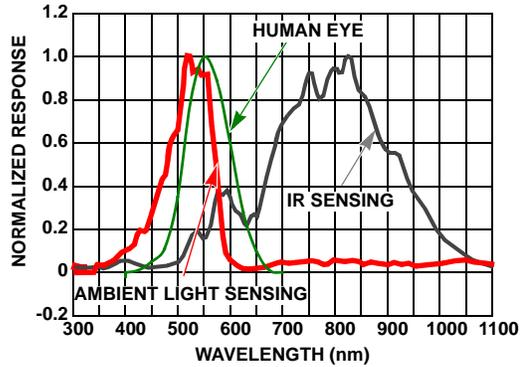

FIGURE 4. NORMALIZED SPECTRAL RESPONSE FOR AMBIENT LIGHT SENSING AND IR SENSING
The ISL29023 contains two photodiode arrays, which convert light into current. The spectral response for ambient light sensing and IR sensing is shown in Figure 4 in the performance curves section. After light is converted to current during the light signal process, the current output is converted to digital by a built-in 16-bit Analog-to-Digital Converter (ADC). An I²C command reads the ambient light or IR intensity in counts.
When the part is programmed for ambient light sensing, the ambient light with wavelength within the "Ambient Light Sensing" spectral response curve in Figure 4 is converted into current. With ADC, the current is converted to an unsigned n-bit (up to 16 bits) digital output.
When the part is programmed for infrared (IR) sensing, the IR light with wavelength within the "IR Sensing" spectral response curve in Figure 4 is converted into current. With ADC, the current is converted to an unsigned n-bit (up to 16-bits) digital output.